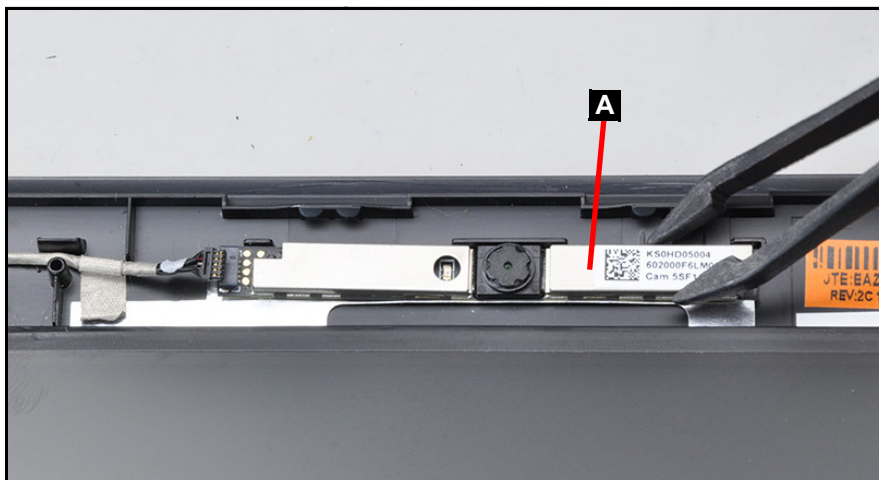

Figure 3-62. Camera Module Removal
3. Lift the camera module (A) from the adhesive and remove it (Figure 3-62).